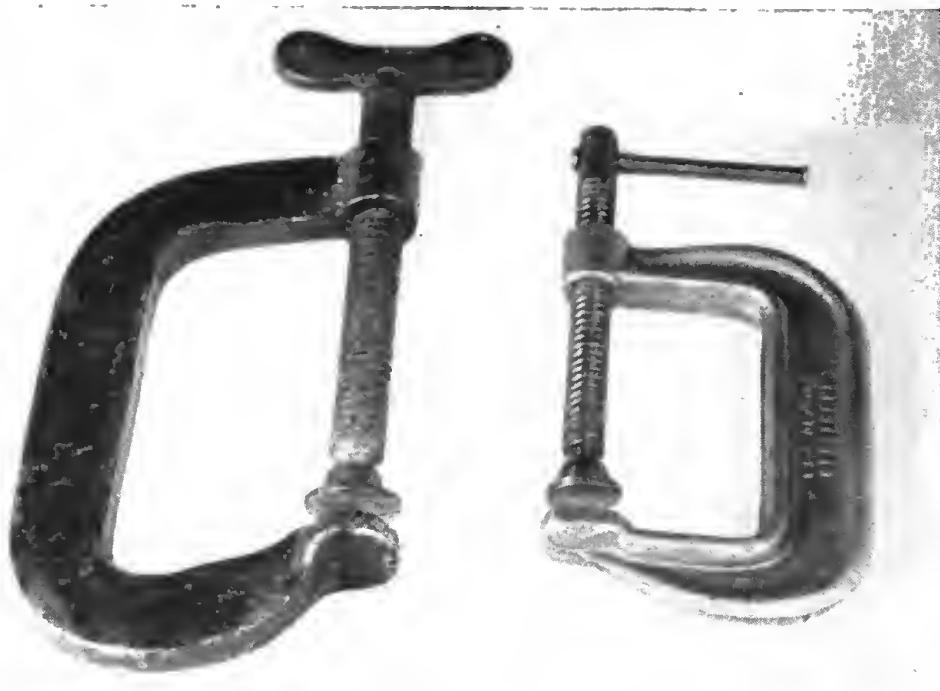

Figure 86. Carriage clamps.
(2) Handscrews are usually used to clamp glue joints, but may be used for any clamping job. The greatest advantage of the handscrew is that it may be fitted to surfaces that are not parallel.
e. CARRIAGE CLAMP. (1) The carriage clamp, or C clamp as it is commonly called, is shaped like a large "C." It has a screw with a swivel plate on it threaded through one of the bars of the "C." (See fig. 86.)